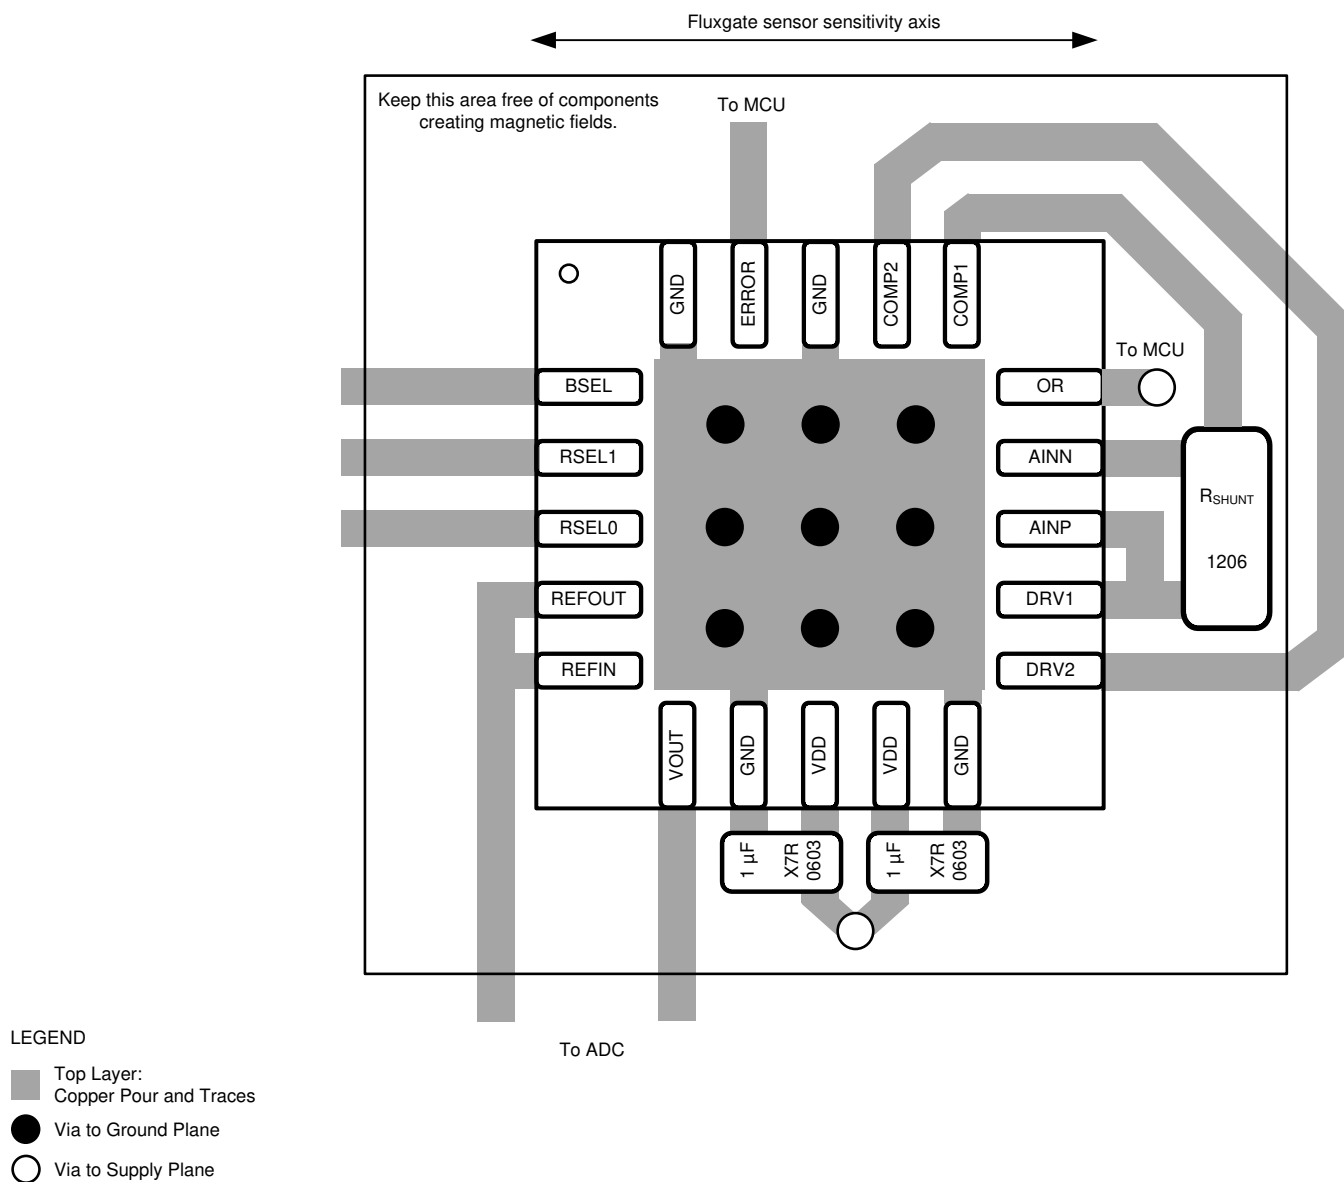

图 76. Generic Layout Example (Top View)
Decouple both VDD pins of the DRV425-Q1 with 1-μF, X7R-type ceramic capacitors to the adjacent GND pin, as illustrated in 图 76. For best performance, place both decoupling capacitors as as possible close to the related power-supply pins. Connect these capacitors to the power-supply source in a way that allows the current to flow through the pads of the decoupling capacitors.
- Route currents parallel to the fluxgate sensor sensitivity axis as illustrated in Figure 76. As a result, magnetic fields are perpendicular to the fluxgate sensitivity and have limited affect.
Figure 76 illustrates a generic layout example that highlights the placement of components that are critical to the DRV425-Q1 performance. For specific layout examples, see the DRV425EVM users guide.